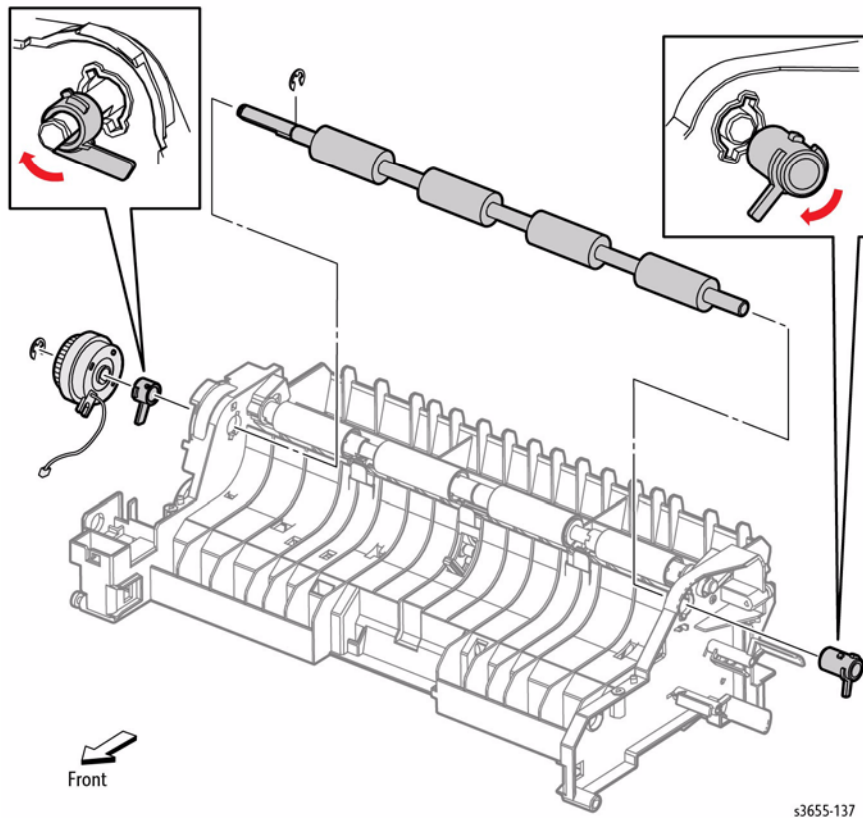

Figure 4 Remove the Rubber Registration Roller
6. Refer to Figure 4 to locate, lift, and rotate the registration shaft bearings to remove.